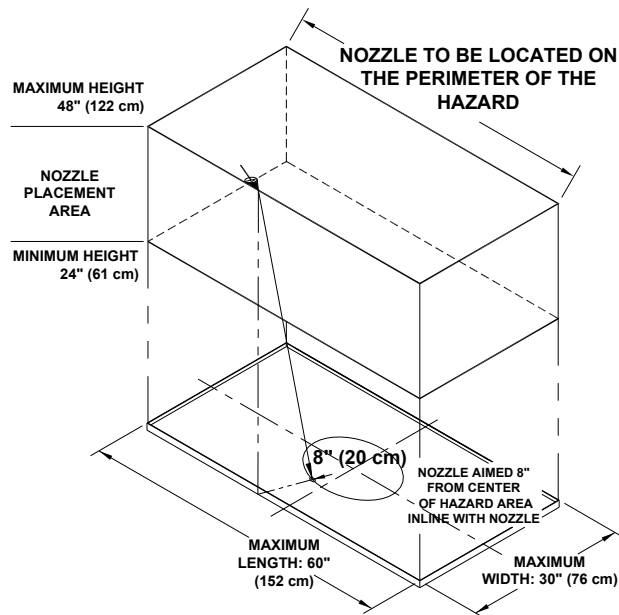

Figure 3-19.
The **Model N-2LP** nozzle is a two (2) flow point nozzle that can protect a griddle with a maximum cooking area of 60" (152 cm) wide by 30" (76 cm) deep. The nozzle must be located 24" (61 cm) to 48" (122 cm) above the cooking surface and positioned directly above the edge of the cooking area. The nozzle must be aimed 8" (20 cm) from the center of the cooking area in-line with the nozzle. See **Figure 3-19**.